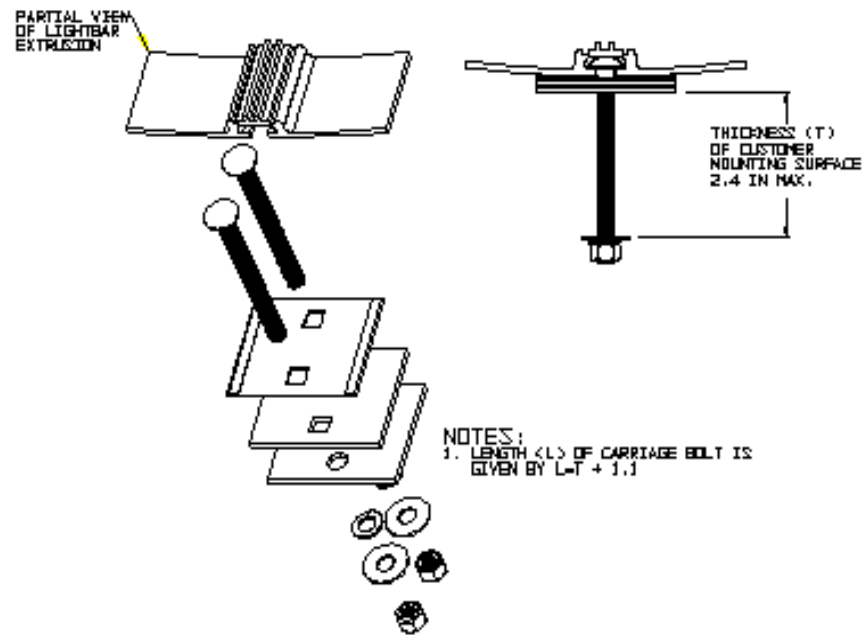

FIGURE 2
- C. Install one mount shim on the two carriage bolts at one end of the light bar. The shim should be positioned so that the folded edge is toward the light bar extrusion. This shim compensates for the curvature in the light bar extrusion. Ref. Figure2